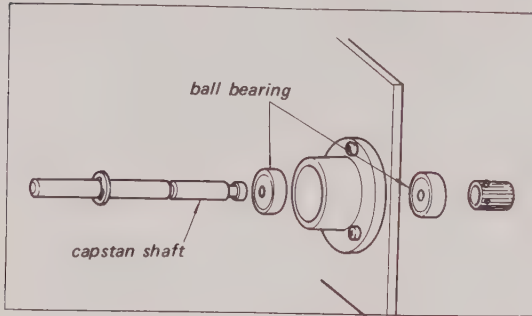

Fig. 5-47. Capstan bearings
6. Pull out the Capstan Shaft from the top and replace the shaft and/or bearing. See Fig. 5-47.